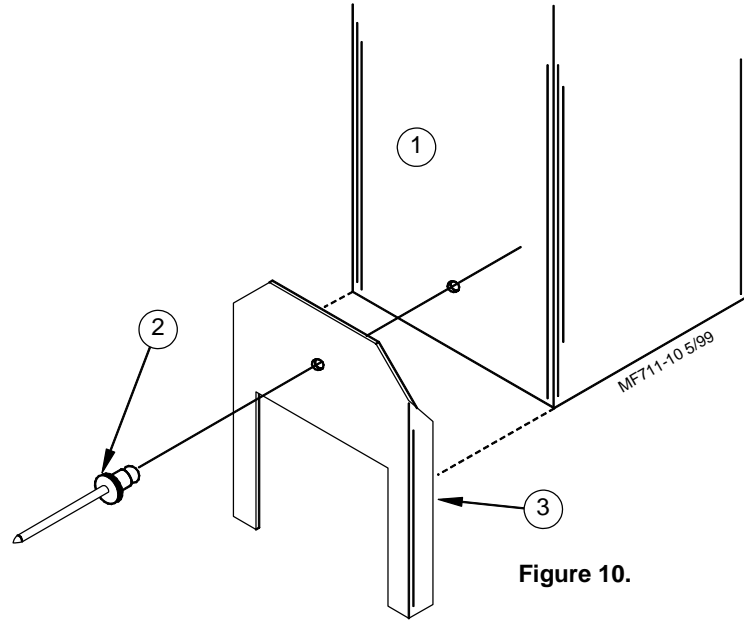

Figure 10.
1. If the existing Feed Level Tubes are to be used, the Drop Tubes must be extended to prevent the feed level tubes from hanging up. Use a 24113 Tube Guide as a template and drill a 3/16" hole in opposite sides of the Drop Tubes. Use a 3/16" Pop Rivet to fasten a Tube Guide to opposite sides of the Drop Tube. **Figure 10.**